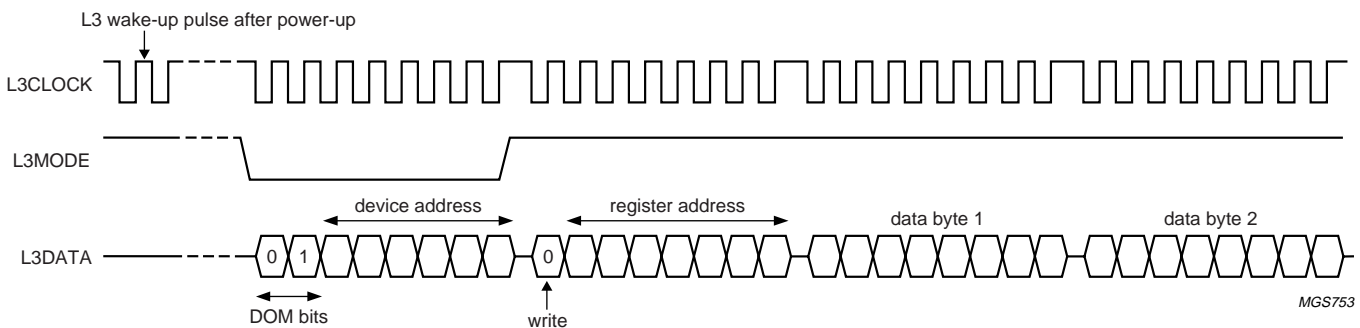

Fig.7 Data write mode (for L3 version 2).
The address mode is used to select a device for a subsequent data transfer. The address mode is characterized by L3MODE being LOW and a burst of 8 pulses on L3CLOCK, accompanied by 8 bits (see Fig.7).
Remark: when the device is powered up, at least one L3CLOCK pulse must be given to the L3 interface to wake-up the interface before starting sending to the device (see Fig.7). This is only needed once after the device is powered up.
1. Addressing for write data: bit 0 is logic 0 indicating a write action to the destination register, followed by bits 1 to 7 indicating the register address (see Fig.7)
The data write mode is explained in the signal diagram of Fig.7. For writing data to a device, 4 bytes must be sent (see Table 6):